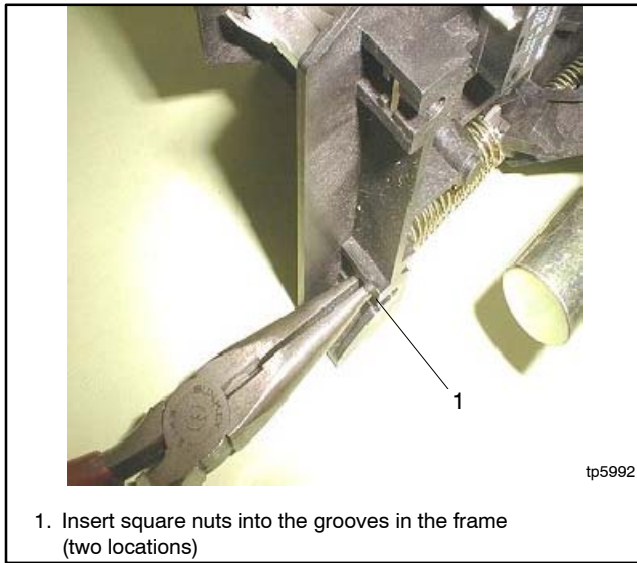

Figure 7-13 Reinstalling the Coil Assembly Nuts
1. Insert the two square nuts into the grooves on the frame. See Figure 7-13.